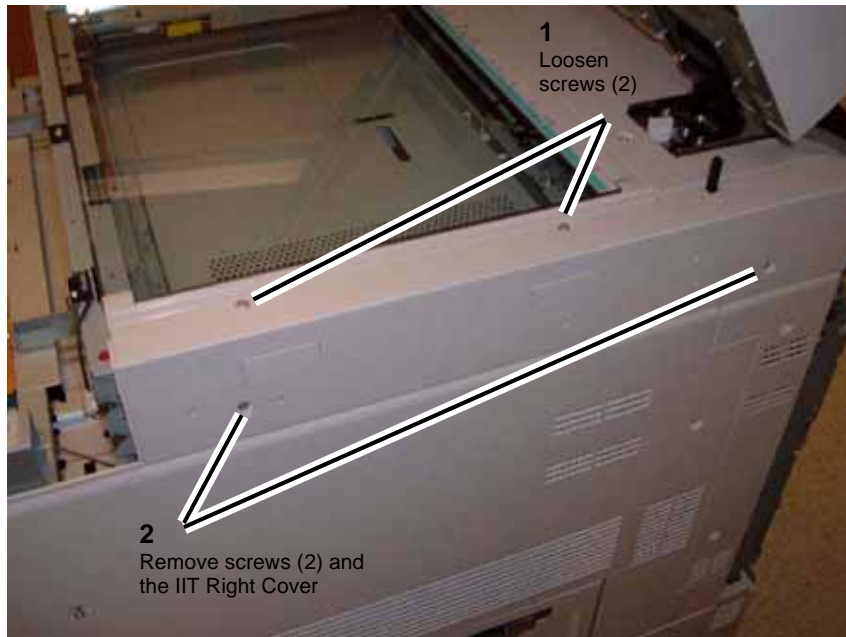

Figure 4 Removing the IIT Right Cover
9. Remove the IIT Right Cover (Figure 4).